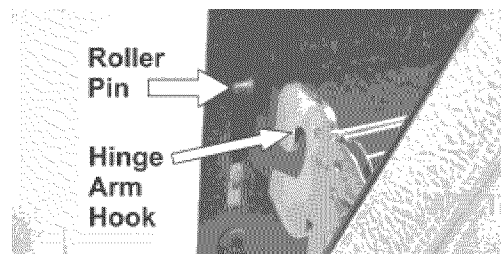

Fig. 4
5. With the oven door in the broil stop position, lift the oven door hinge arms over the roller pins located on each side of the oven frame (See Fig. 4).
2. Holding the oven door at the same angle as the removal position, seat the hook of the hinge arm over the roller pins located on each side of the oven door frame (See Fig. 4). The hook of the hinge arms must be fully seated onto the roller pins.